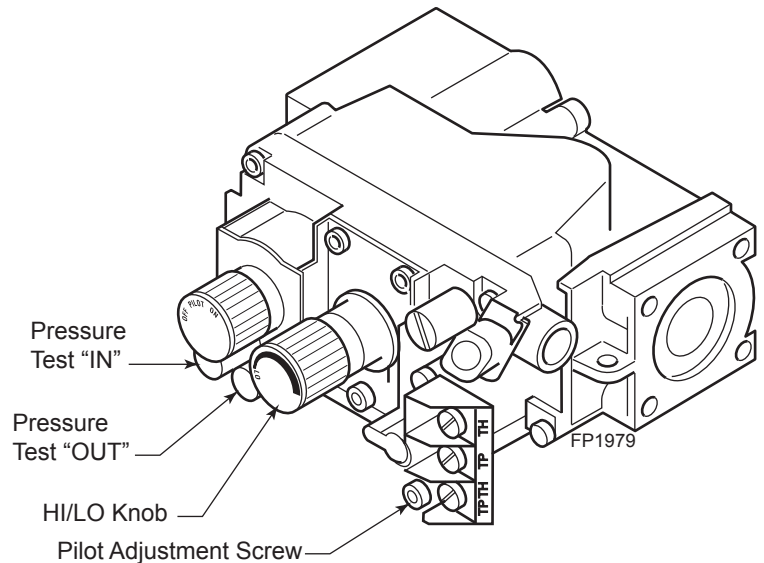

Figure 41 - Gas Pressure Check at Gas Valve
5. To check gas pressures at valve, turn captured screw counter clockwise 2 or 3 turns and then place tubing to pressure gauge over test point. Turn unit to high. *Figure 41*. After taking pressure reading, be sure and turn captured screw clockwise firmly to reseal. Do not over torque. Check test points for gas leaks.